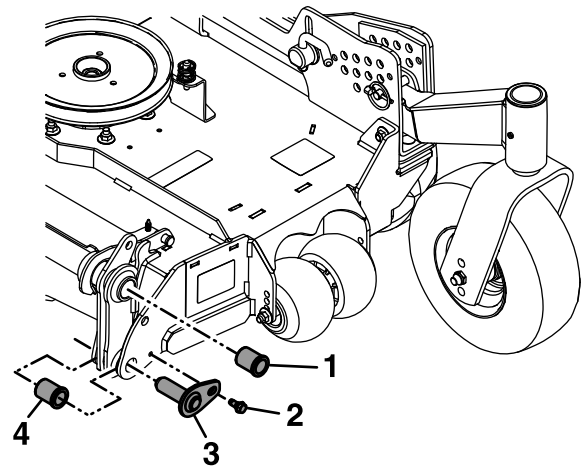

**Figure 85**
12. Remove and retain the bolts that secure the upper pivot pins to the deck and then remove the pivot pins (Figure 85).
13. Pull the wing deck outward to separate it from the center deck section (Figure 85).
- 13. Pull the wing deck outward to separate it from the center deck section (Figure 85).
Align and install the upper pivot deck pins in the front and rear of the deck and secure it using the previously removed bolts (Figure 85).